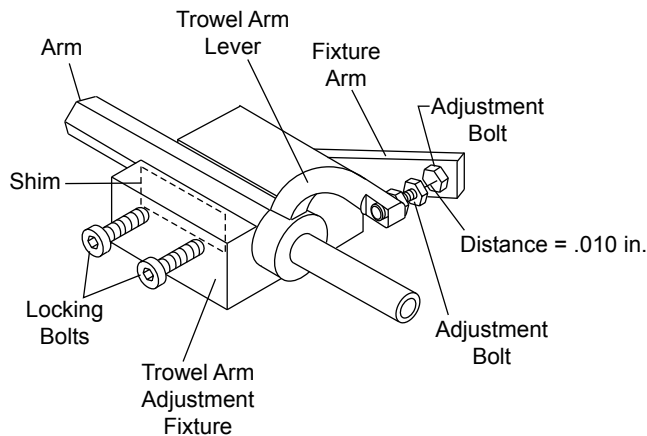

Figure 39. Trowel Arm Adjustment Fixture Components
3. Shown in Figure 39 is the adjustment fixture with a trowel arm inserted. As each trowel arm is locked into the fixture, the arm bolt is adjusted to where it contacts a stop on the fixture. This will consistently adjust all of the trowel arms, keeping the finisher as flat and evenly pitched as possible.
4. Unscrew the locking bolts on the adjustment tool and place the trowel arm into the fixture channel as shown in Figure 39. A thin shim may be required to cover the blade holes on the trowel arm. Make sure to align the trowel adjustment bolt with the fixture adjustment bolt.
6. Adjust the bolt "distance" shown in Figure 39 to match one of the arms. The other arms will be adjusted to match this distance.